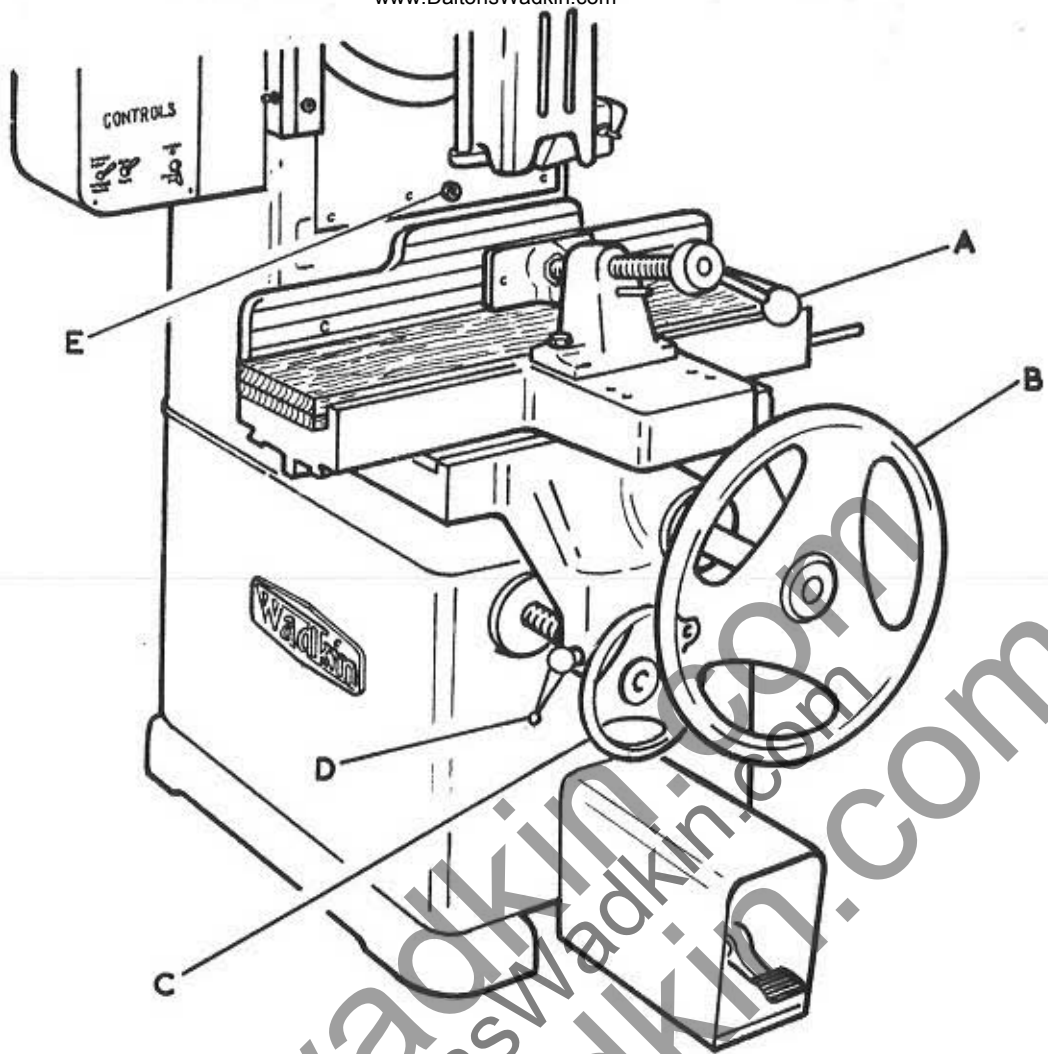

FIG 9
The cramp is controlled by lever "A" in Fig. 9. The cramp face is drilled to receive a wooden pad to prevent possible marking of the workpiece.
The table has both longitudinal and lateral movements. The longitudinal movement is controlled by means of handwheel "B" in Fig. 9 and has a maximum movement of 23" (584mm). The table has positive stops in the side which can be set to control the length of mortise to be cut.
3. Loosen hexagon clamp nut "E" in Fig. 9 and allow piston rod to return to its maximum extent by moving switch from "inch" to "run". Relock hexagon clamp nut "E".
3. Mark on end of the timber, the haunch depth and the full depth of the mortise required. Lock timber by means of the clamp "A" in Fig. 9 and traverse the table by means of handwheel "B" until the tool misses the timber end fractionally.